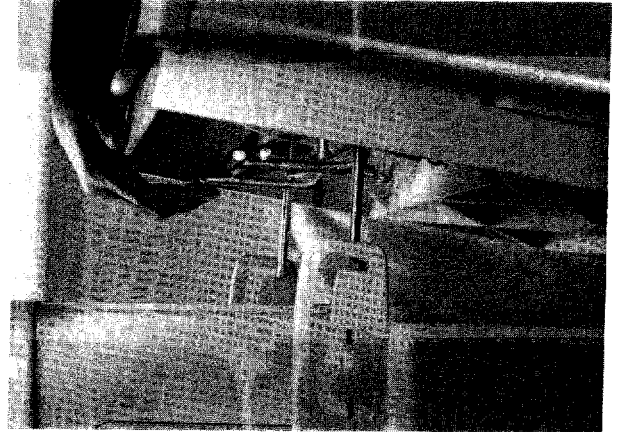

FIGURE 4.4 BASSINET TILT CONTROL
1. **CHECK THE MATTRESS TILT CONTROL** (Figure 4.4) by pulling up on the lever located at the bottom rear of the Bassinet while supporting the rear lower edge of the Bassinet with